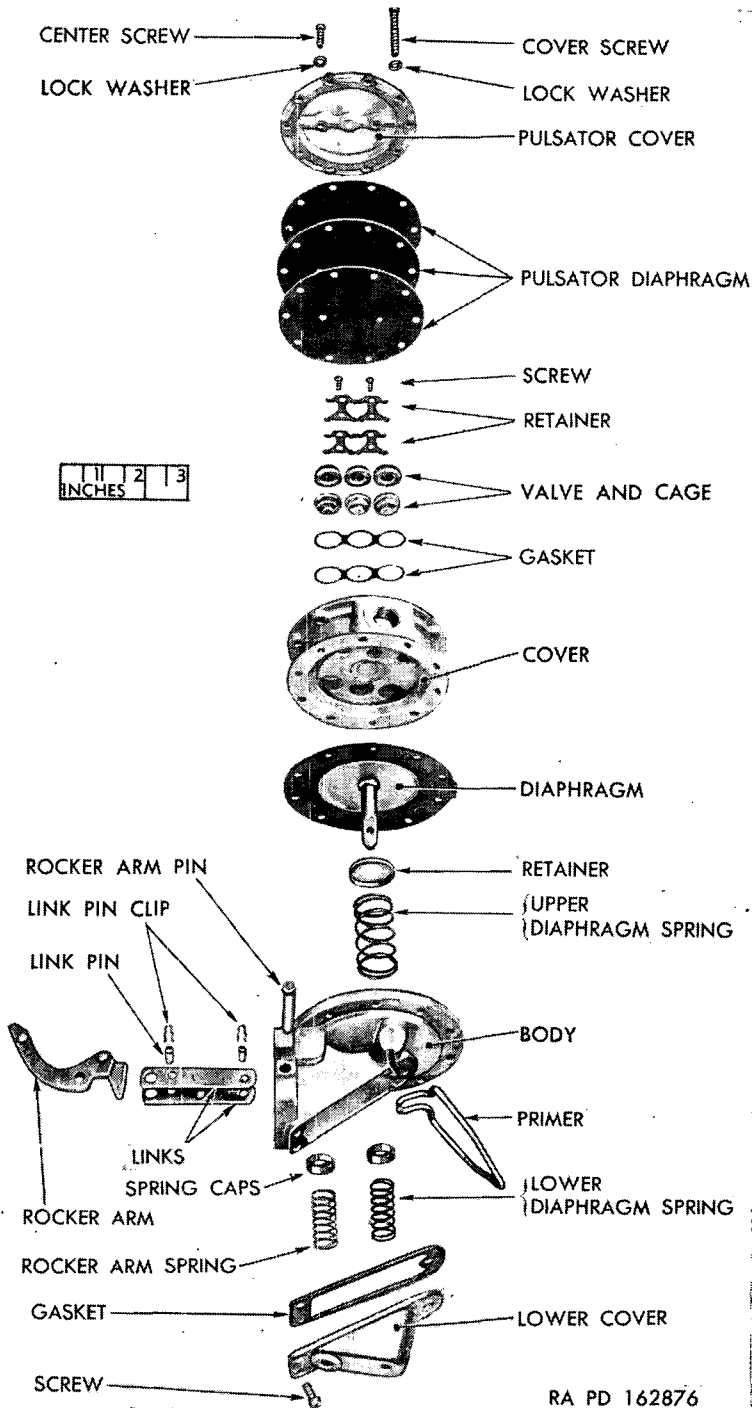

Figure 50. Fuel pump—disassembled (typical series BH construction).
(fig. 50)
a. Assemble Body (fig. 50).
- (1) If used, assemble upper spring over diaphragm pull rod and push pull rod through hole in pump body. Assemble sheared ends of two links to flat of pull rod (sheared link corner toward top of pull rod) and retain with one link pin and two clips. Install link pin through center hole of links and retain with two clips.
- (2) Install rocker arm between links with hooked end over center link pin. Assembly is correct when center link pin is below center line of links. Aline rocker arm pin hole with hole in body and drive in rocker arm pin. Install washer over counterbored end of pin and spread pin at counterbore to retain in position.
- (3) Place diaphragm spring over inner boss of lower cover and the rocker arm spring over outer (recessed) boss. Place spring caps over springs and gasket on lower cover. Suspend body with lower cover flanged down (install priming lever if used) and place lower cover, with associated parts, against body. Spring caps must seat against bottom of pull rod and hook of rocker arm. Retain lower cover with three screws.